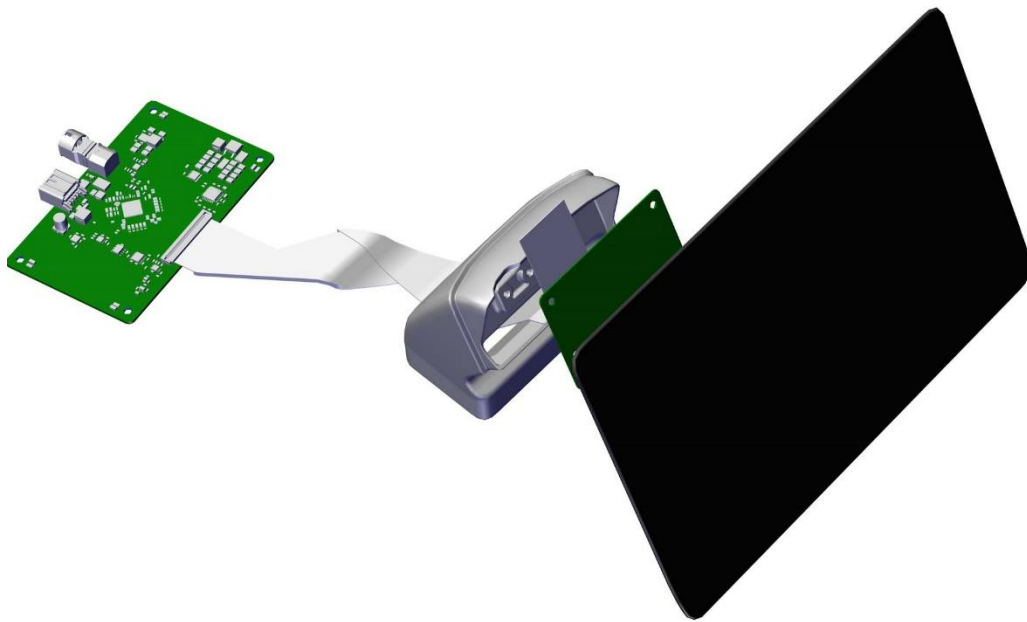

Figure 3 - Central Display Assembly
- Central Display Assembly – Figure 3